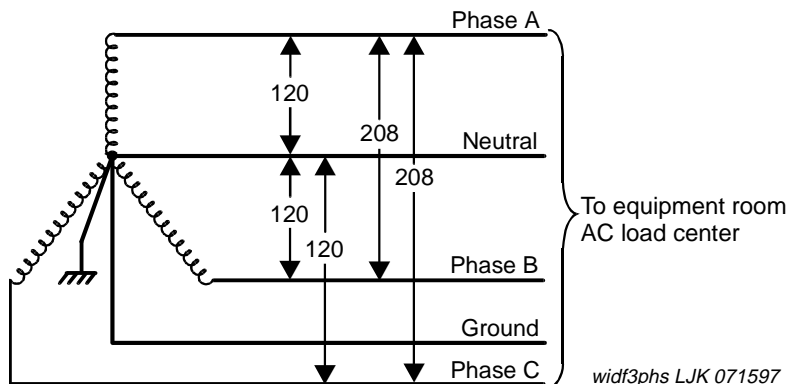

Figure 18. Three-Phase, 120/208 VAC, 60 Hz Source
- Three-phase, 5-wire, 208 VAC. See Figure 18.